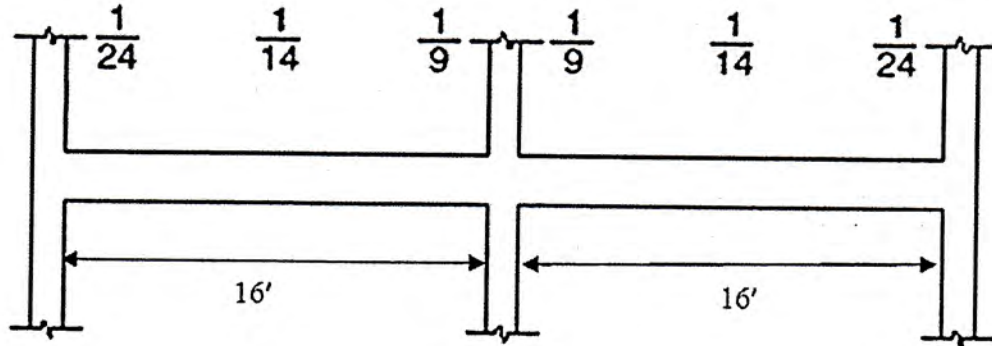

Figure 5
b) Determine the design positive moment capacity of the following T-beam. Given that, $f'_c = 4$ ksi, $f_y = 60$ ksi. (07)
6. A reinforced concrete one way slab is built integrally with its supports and consists of two equal spans. The slab panels are continuous in one direction and each panel has a clear span of 16ft is shown in Fig.5. The service live load is 100 psf and 4000 psi concrete is specified for using with steel with a yield stress equal to 60000 psi. Design the slab and show the reinforcement detailing. Use USD method. (10)